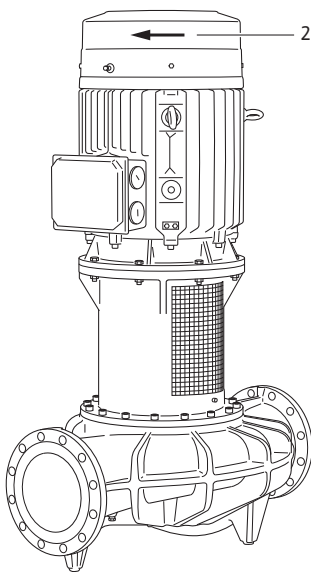

Fig. 41: Checking the direction of rotation
- By briefly switching on, check whether the direction of rotation agrees with the arrow on the fan cover (see Fig. 41, Item 2). If the direction of rotation is incorrect, proceed as follows: